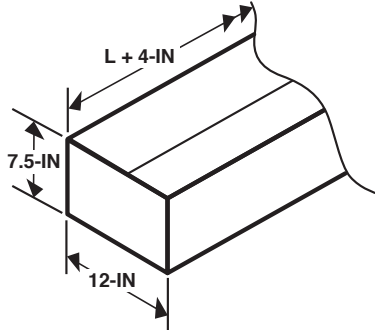

Figure 10F: Concrete Pour Framing Dimensions
- Flush Grille: 4" longer than the length of the heater by 12" wide by 7.5" depth. (materials field supplied) See figure 10F.
- Surface Grille: 4" longer than the length of the heater by 12" wide by 7" depth. (materials field supplied) See figure 10F.